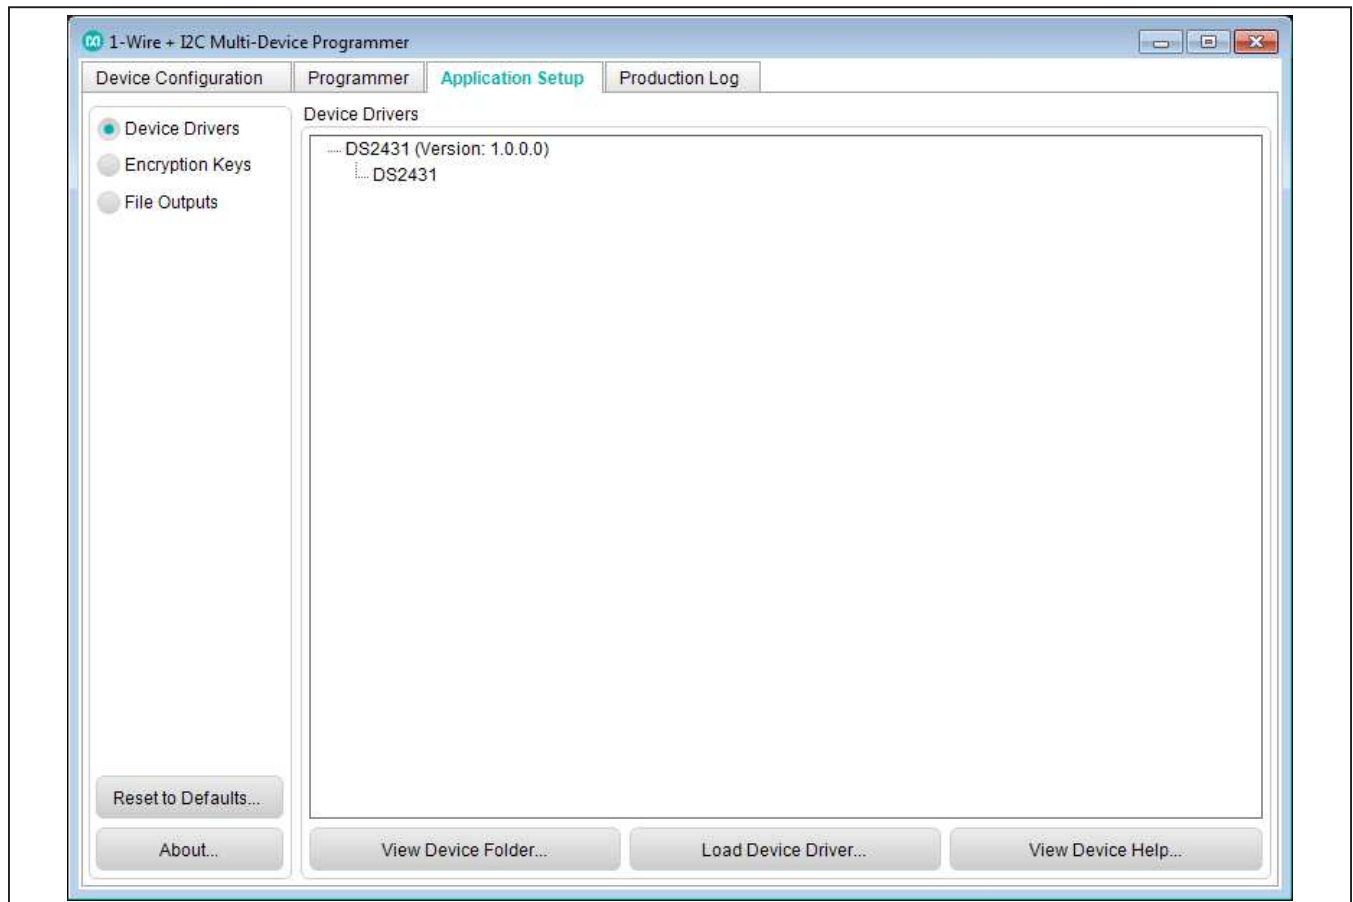

Figure 2. Installed Device Drivers
- 2) Navigate to the **Application Setup** tab and click on the **Device Drivers** radio button. See Figure 2.